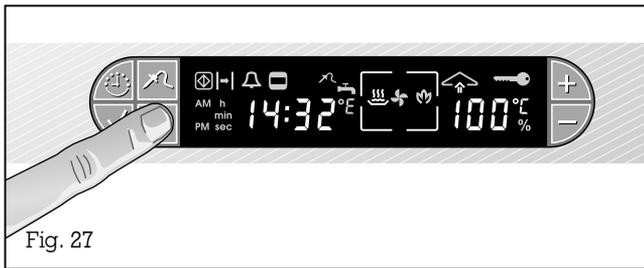

Fig. 27
- Press the  (Steaming / Condensing) key for approx. one second (Fig. 27).